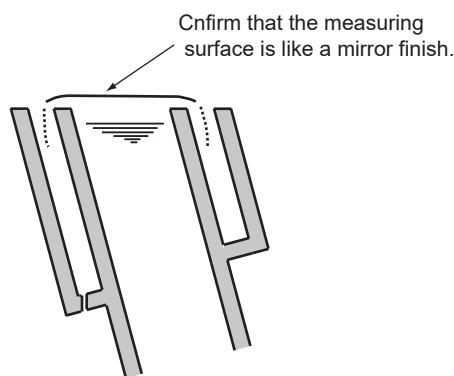

Figure 8.13 Sample surface
- (2) Make sure the sample surface is mirror-like as shown in Figure 8.13. When it is undulating, adjust flow rate of the sample or zero water (see Section 3.5, "Supplying Zero Water", "Leveling and Adjusting flow rate on detector 3.6", "Supplying sample and Adjusting the 3.12").
- (3) Check that the amount of overflowing sample is almost uniformly overflowing around the entire circumference of the measuring tank. If there is a large deviation, perform leveling (flow rate adjustment) of the detector in section 3.6, "Leveling and Adjusting flow rate."
- (4) Check the contamination of the detector's internal storage and clean it if it is dirty. Be sure to perform zero calibration and slope calibration after cleaning.
- (5) Close detector.
- (6) End.